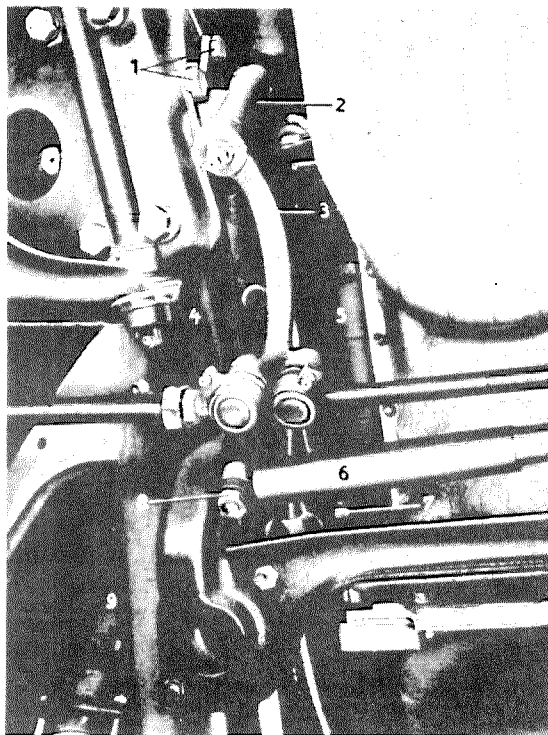

Fig. 15-1/1
2. Unscrew the hexagon screws (1) on the pivot bearing (2) for the steering relay arm on the front axle support (4) and push the
pivot bearing (2) with the tie-rod downward (Fig. 15-1/1).
3. Turn the two hexagon screws and the cable support (3) sideways on the right rear engine mounting (Fig. 15-1/2).